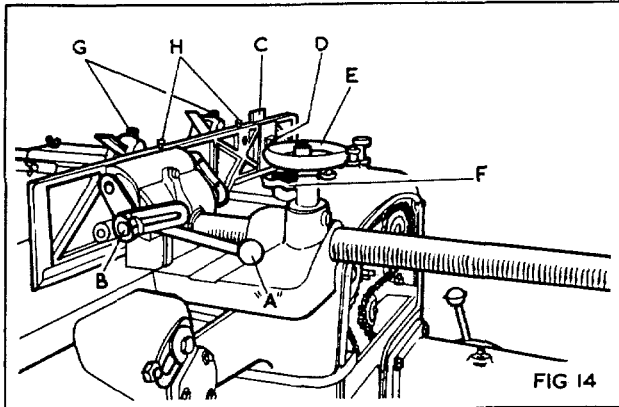
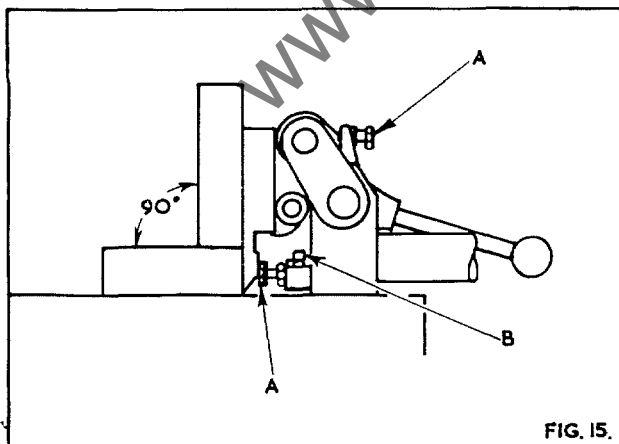

FIG 14
FIG 15
The fence cants by means of a lever "A" in fig. 14.
1. Move the fence towards the rear of the table, as shown in fig. 15.
2. Check the 90° positive stops by means of a steel square as in fig. 15. If adjustment is necessary adjust the hexagon head bolts "A" until fence is at right angles to the table when hard up against the stops and handwheel "B", in fig. 14 locked.
3. Check the 45° positive stops by means of an adjustable square or mitre gauge. Should adjustment be necessary move the hollow set screw "B", in fig. 15 until the fence is at 45° to the table when hard up against the stop and handwheel "B" in fig. 14 locked.